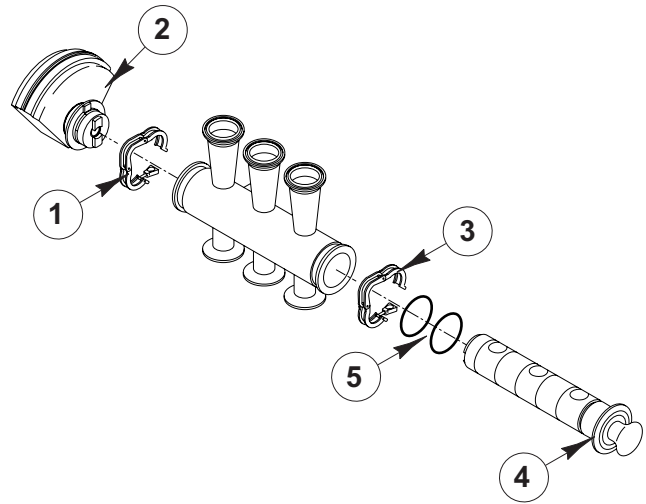

Fig. 6.2
- a. Unlock the clamp hook (*Position 1, figure 6.2*) and disassemble the rolling actuator (*Position 2, figure 6.2*)
- b. Unlock the clamp hook (*Position 3, figure 6.2*) and extract the cylinder using the knob (*Position 4, figure 6.2*)
- c. Disassemble the gaskets (*Position 5, figure 6.2*)